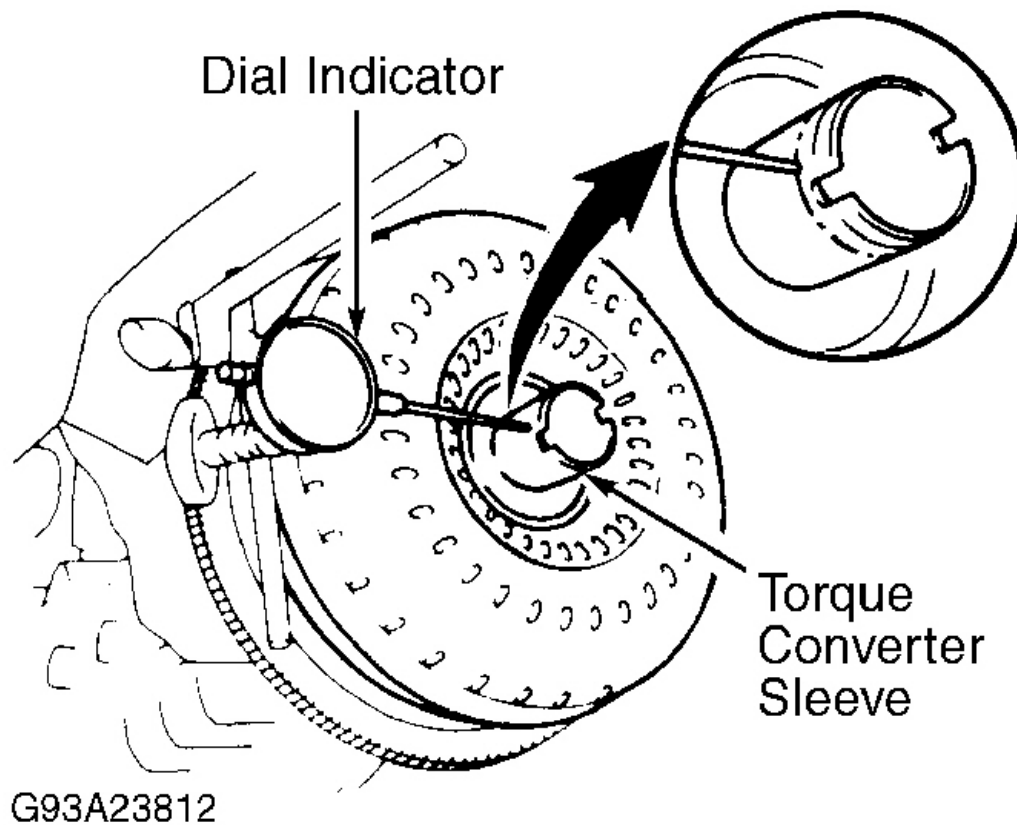

Fig. 8: Measuring Torque Converter Sleeve Runout
1. Temporarily mount torque converter to drive plate. Mount a dial indicator with needle resting on converter sleeve. See **Fig. 8** . Rotate converter. If runout exceeds .0118" (.300 mm), ensure converter is properly mounted to drive plate.